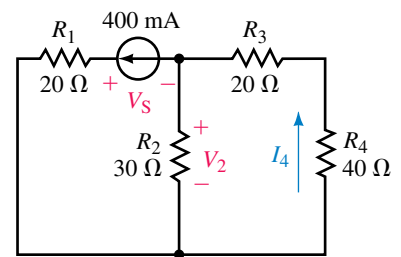

FIGURE 8-69
6. Refer to the circuit of Figure 8-69: